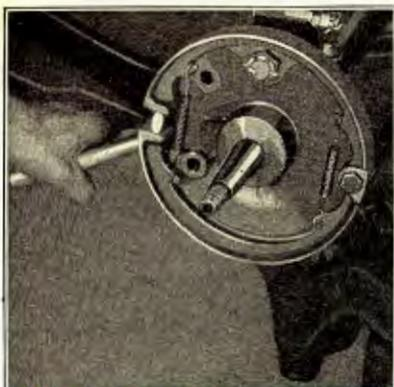

Fig. 361
- 648** In order to remove the forked end of the radius rod, it is necessary to turn the hub camshaft lever in a horizontal position with the end of the lever pointing to the rear of the car. When this is done, the cam assumes a vertical position as shown in Fig. 361. Radius rod can now be removed.
- 651 Turn hub camshaft lever to a vertical position (See Fig. 361).